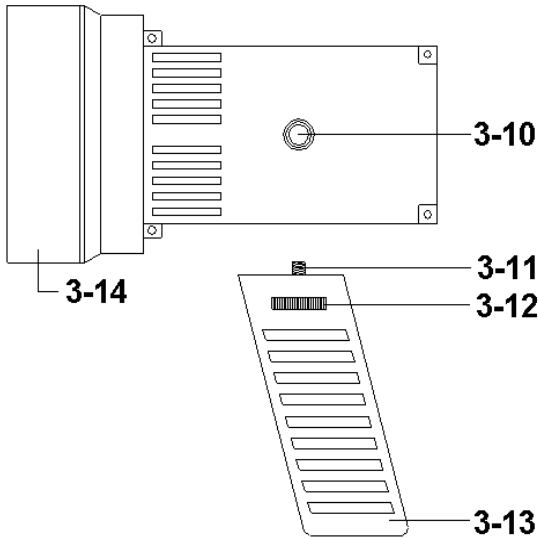

Fig. 2
- " Handle fix knot " (3-10, Fig. 2),
- " Handle fix screw " (3-11, Fig. 2)
- " Handle fix knob " (3-12, Fig. 2)
- 1) Loss (rotate) the " Front top cover " (3-14, Fig 1, Fig. 2) and take away the " Front end protection cover ".